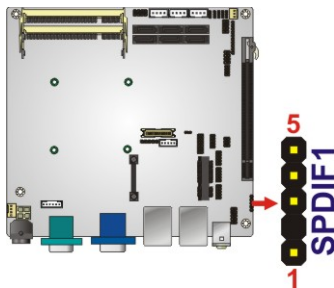

Figure 3-19: SPDIF Connector Location
- CN Location:** See **Figure 3-19**